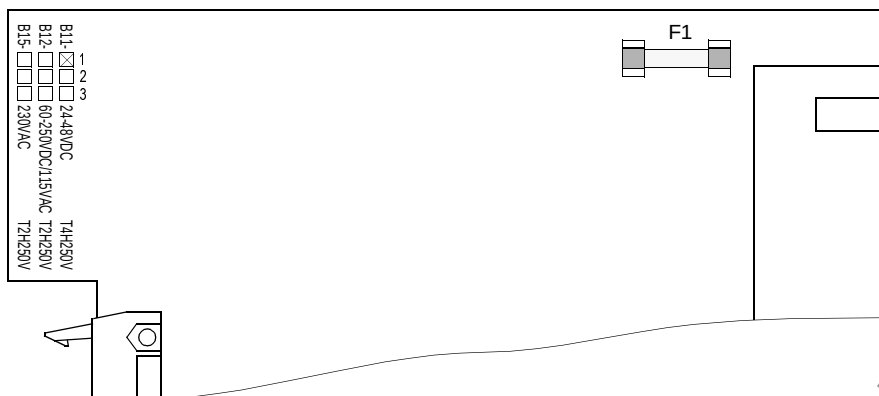

Figure 9-7 Power supply mini-fuse CPU board
- ☐ Has the fuse in the power supply not blown? The location of the fuse is shown in Figure 9-7. If the fuse needs to be replaced, see Subsection 9.5.2.
This data is printed on the module (see Figure 9-7). The type of fuse depends on the auxiliary supply voltage, e.g. for 24 to 48 VDC the fuse type "T4H250V" according to IEC 60127-2 is required (refer to Table 9-1).
- ☐ Remove the defective fuse. Figure 9-7 illustrates the fuse.